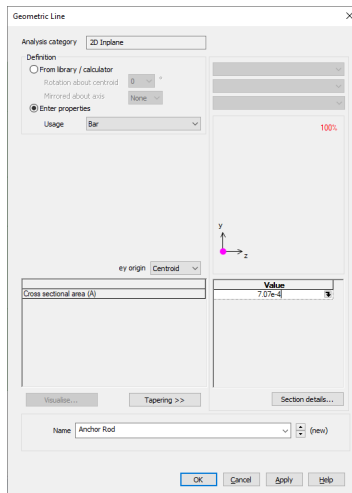

Figure 17: Anchor Rod geometric properties
- Using **Attributes > Geometry > Line...** Select **Bar / Cable** from the **Usage** dropdown list. Enter 7.07×10^{-4} for the area and **Anchor Rod** in the name field. Then click **Apply** (figure 17).